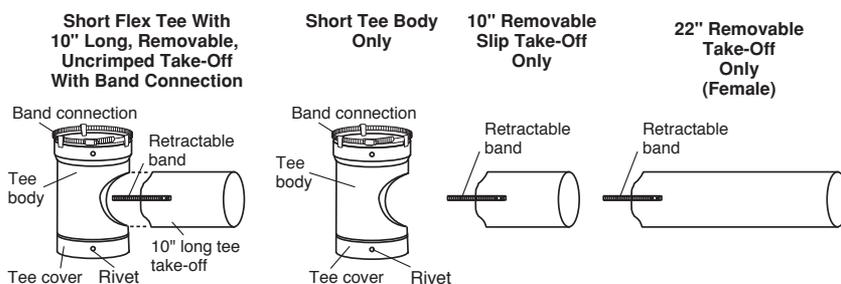

FIGURE 10 – TEES AND TAKE-OFFS
4. To install the tee, first place the tee cover over the outside of the bottom end using four, 1/2" stainless steel pop rivets to secure (Figure 10).
The second tee in Figure 10 is a Short Tee Body Only. You must use one of two removeable take-offs to go with it: 1) 10" Removeable Slip Take-Off, which connects to a female connector pipe without crimping, or 2) 22" Removeable Take-Off (Female) (uncrimped).